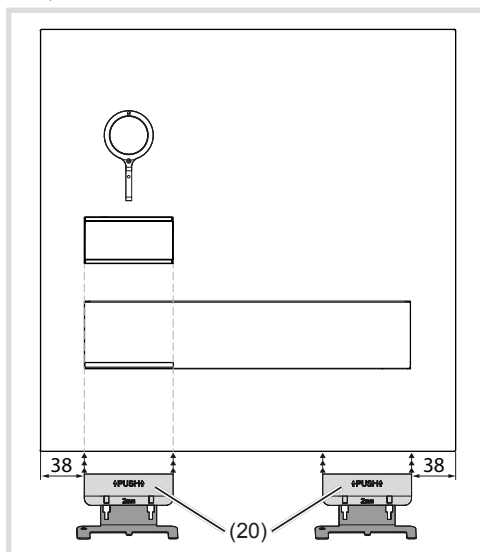

Figure 19: Opening the letter box front
- Attach opening tools (20) in accordance with Figure 19 with a spacing of 38 mm to the sides and press upwards (Figure 19).